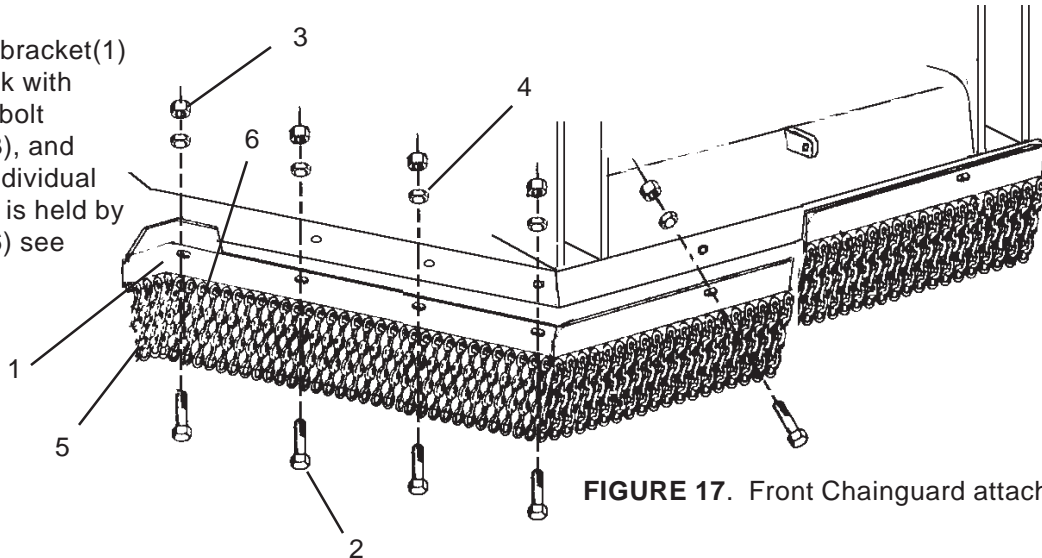

FIGURE 17. Front Chainguard attachment
The placement of the Chain Guards corresponds to the Rubber Deflector Attachment with the exception of the Front Center Section see **FIGURE 17**. Attach all Chain Guards with bolts and locknuts specified in the parts list.
Attach chain bracket(1) to center deck with 1/2" x 1-1/2" bolt (2), locknut (3), and washer (4) Individual chain link (5) is held by Chain Rod (6) see **FIGURE 17**.